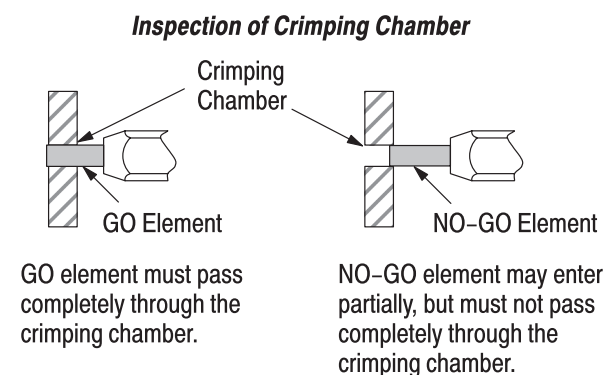

Figure 5
This inspection requires the use of plug gages conforming to the dimensions provided in Figure 5. Gage each crimping chamber section separately as follows:
- Changed dimensions in table in Figure 5